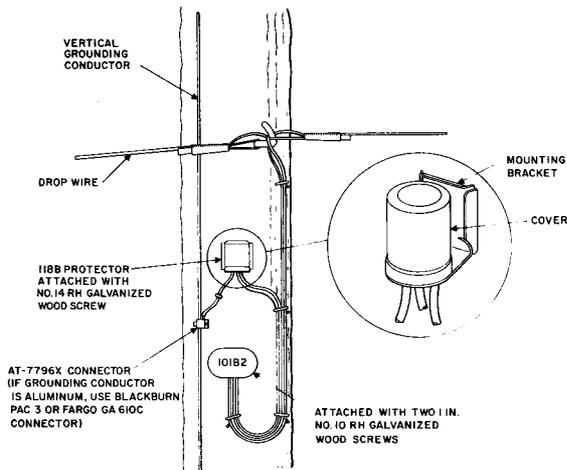

Fig. 87—118B Protector Connected to Drop Wire
**13.02** The 118B protectors are connected to drop wires (Fig. 87) or rural wires (Fig. 88) as specified by detailed plans, telephone company engineering or supervisory instructions. The 118B protector provides protection for a single drop wire or rural wire; however, the length of a drop wire or rural wire run may dictate the installation of additional protectors on the same drop wire or rural wire.